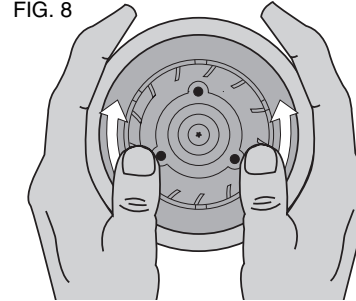

FIG. 9
1. Remove the three screws located in the top cap, as shown in figure 9.